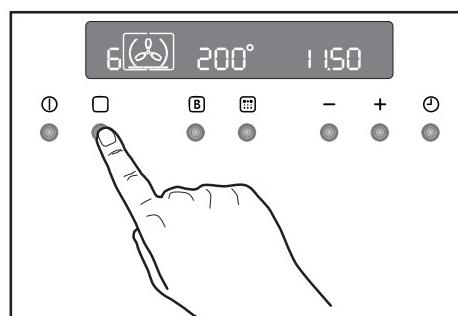

Fig. 5
- 1) Switch on the oven by pressing the ① button.
- 2) Press button to select the required oven function. Each time button is pressed, a cooking symbol will appear in the display and the corresponding cooking function number will appear to the left of the currently selected cooking function symbol (Fig. 5).